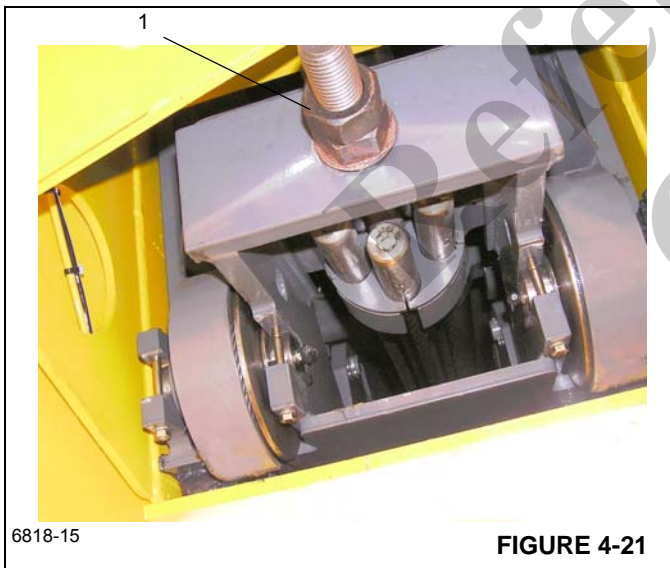

FIGURE 4-21
9. Remove the lock nut and adjustment nut (Figure 4-21, 1) from the extend cable adjustment bolt. This will free the extend cable from the inner mid weldment.